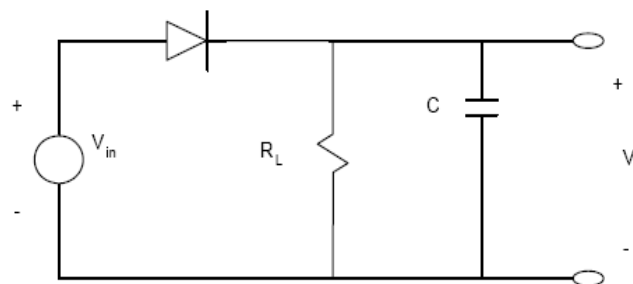
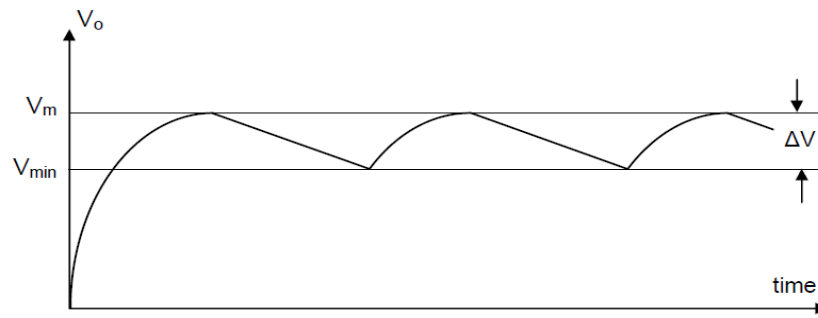

Figure 3: Rectifier circuit with an RC smoothing filter.
Figure 4: Output wave shape from a full-wave filtered rectifier.
The rectifier circuits discussed above provide a pulsating dc voltage at the output. These pulsations are known as "ripple". The uses for this kind of output are limited to charging batteries, running dc motors, and a few other applications where a constant dc voltage is not necessary. For most electronic circuits, however, a constant dc voltage similar to that from a battery is required. To convert a half-wave or full-wave rectified voltage with ripple into a more constant dc voltage, a smoothing filter must be used at the rectifier's output. A popular smoothing filter is the capacitor-resistor filter, which consists of a single capacitor in parallel with the load resistor. Figure 3 shows such a filter connected to the output of a half-wave rectifier. The output wave shape of the filtered half-wave rectifier is similar to that shown in Figure 4, assuming that the time constant of the $R_L C$ filter is comparable to the period of the input voltage.
Notice that the output wave shape still has ripple, but the ripple is now saw-tooth or triangular shaped, and its variation is much less than that of the unfiltered pulses. The difference between the maximum and minimum of the filtered voltage is known as the **Ripple Voltage (V_r)**. In Figure 4, this voltage is labeled ΔV .
For a half-wave rectifier, f_p is the frequency of the input voltage. For a full-wave rectifier, f_p is twice the frequency of the input voltage. The output of the filtered voltage for a full-wave rectifier is shown in Figure 4.
From Figure 4, we see that ΔV ($=V_r$) determines the amount of ripple in the output signal. From Equation (3), we see that for the ripple voltage V_r to be small, the $R_L C$ time constant must be large. In other words, the ripple can be reduced by increasing the discharging time constant RLC . Hence, increasing either C or R_L will reduce the ripple voltage. It should be noted that the resistor R_L is usually inside a commercial power supply and any external load connected to the power supply is in parallel with R_L and acts both to lower the total load resistance and to increase the ripple. This is why an audible hum is often heard from power supplies when the external load resistance drops to a very low value.
$V_r(rms)$ is the RMS value of the ripple voltage. The value of $V_r(rms)$ can be calculated for various input wave shapes. For a complicated wave shape, such as that shown in Figure 4, the value of $V_r(rms)$ is calculated as if the filtered, rectified wave were a triangular wave, for which
The average (dc) voltage will lie between V_m and V_{min} . Therefore, for the filtered, triangular wave shape shown in Figure 4, a better value of V_{dc} would be given by